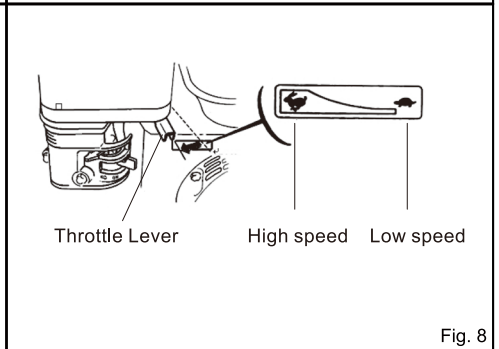

Fig. 8
3. Move the throttle lever from right (low speed) to left (high speed) to keep about 1/3 distance from the left (high speed). (Fig. 8)